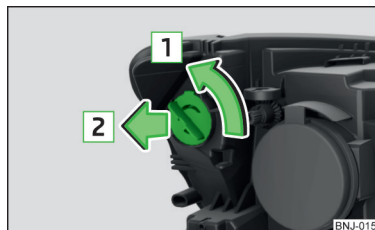

Fig. 298 Changing the bulb for the daytime running light
- Turn the holder with the bulb in the direction of the arrow **1** » Fig. 298.